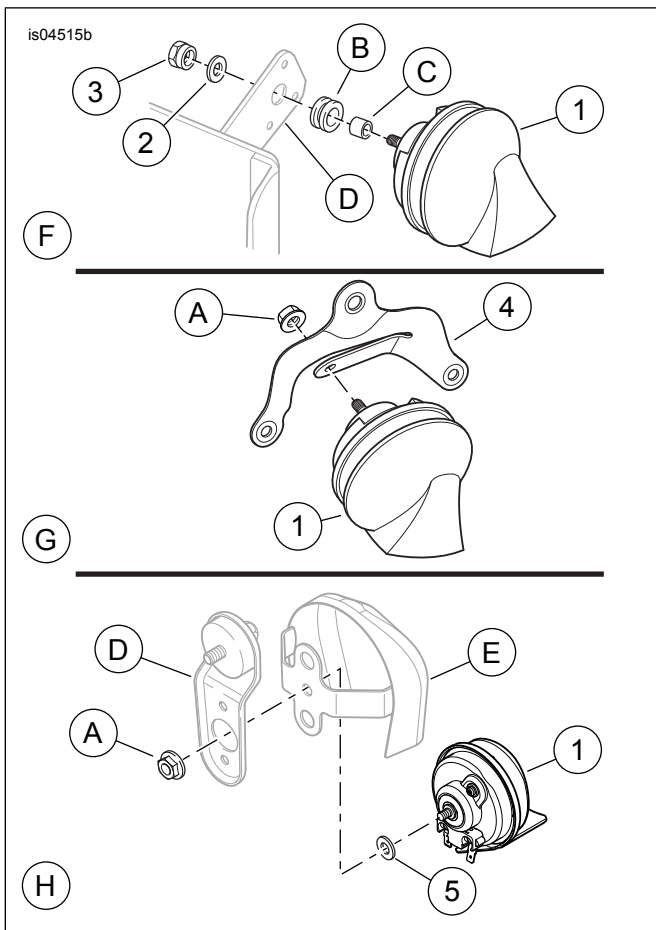

Figure 2. Horn Installation
See Figure 2 and Table 1.
3. See Figure 2. Remove the currently installed horn (1), nut (A), and all the other horn mounting hardware from the horn mounting bracket (D or 4). Discard the horn, but retain the nut and all other horn mounting hardware.